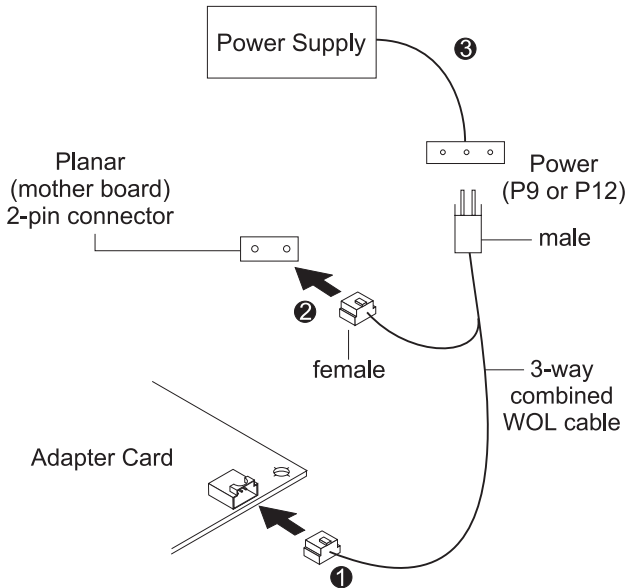

Figure 2-4. Connecting the Signal and Power Cables to Your PC
- A 3-way combined Wake on LAN signal and power cable (IBM PN 08L2558) as shown in Figure 2-4 on page 2-6, to be used between the adapter and PC model that has separate signal and power connectors for Wake on LAN. On this cable, the end that has a single female connector is for the adapter connection. The other end, with one male connector and one female connector, is for the PC connection.
- 1** Connect the single female end of the 3-way combined Wake on LAN cable to the Wake on LAN 3-pin connector on the adapter, as shown in Figure 2-4 on page 2-6.